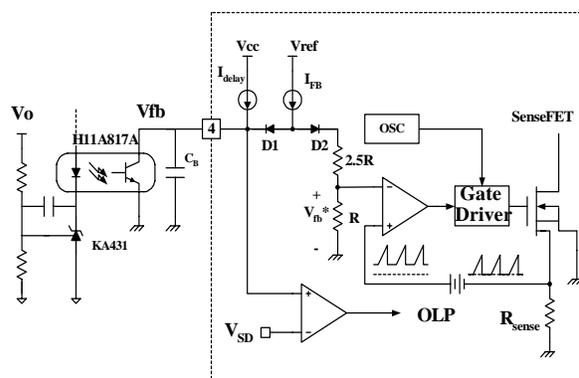

Figure 5. Pulse Width Modulation (PWM) Circuit
**2. Feedback Control:** FSDM0465RB employs current mode control, as shown in Figure 5. An opto-coupler (such as the H11A817A) and shunt regulator (such as the KA431) are typically used to implement the feedback network. Comparing the feedback voltage with the voltage across the Rsense resistor plus an offset voltage makes it possible to control the switching duty cycle. When the reference pin voltage of the KA431 exceeds the internal reference voltage of 2.5V, the H11A817A LED current increases, thus decreasing the feedback voltage and reducing the duty cycle. This event typically happens when the input voltage is increased or the output load is decreased.
**2.1 Pulse-by-Pulse Current Limit:** Because current mode control is employed, the peak current through the SenseFET is limited by the inverting input of the PWM comparator (Vfb\*) as shown in Figure 5. Assuming that the 0.9mA current source flows only through the internal resistor (2.5R + R = 2.8 kΩ), the cathode voltage of diode D2 is about 2.5V. Since D1 is blocked when the feedback voltage (Vfb) exceeds 2.5V, the maximum voltage of the cathode of D2 is clamped at this voltage, thus clamping Vfb\*. Therefore, the peak value of the current through the SenseFET is limited.